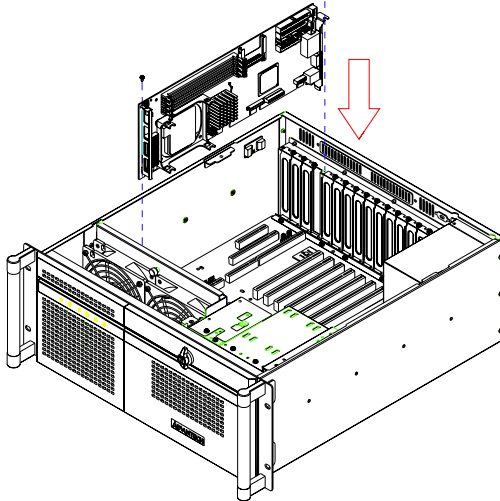

Figure 2.5: Installing a full-length card
2. Insert the CPU card (with CPU, CPU cooler, RAM, and necessary cables installed) or add-on card vertically into the proper slot. For full-length CPU card, please make sure that the card bracket has been inserted properly and the other edge of the card has been inserted into the plastic guiding fillister. Fasten the screws on the top of both brackets of the card. (see *Figure 2.5*)